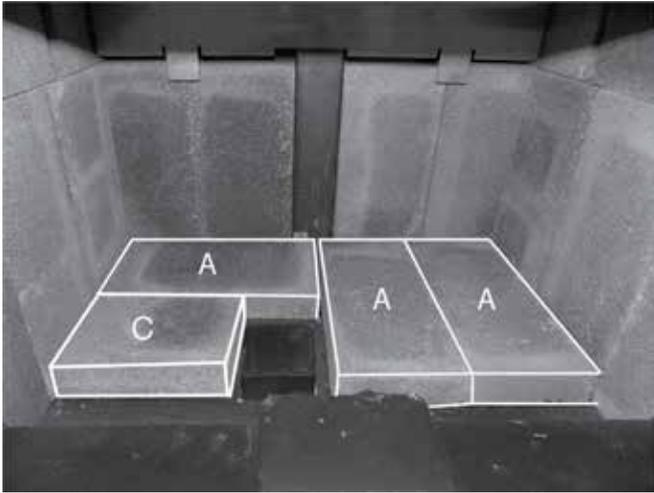

Figure 25: Floor bricks in place.
- Place two "A" firebricks on the firebox floor as shown. Place a third "A" firebrick against the rear wall as shown in (Figure 25).
- Place the "C" firebrick so that it sits beside the ash dump, against the left-hand side wall and the "A" firebrick located directly behind the ash dump (Figure 25).